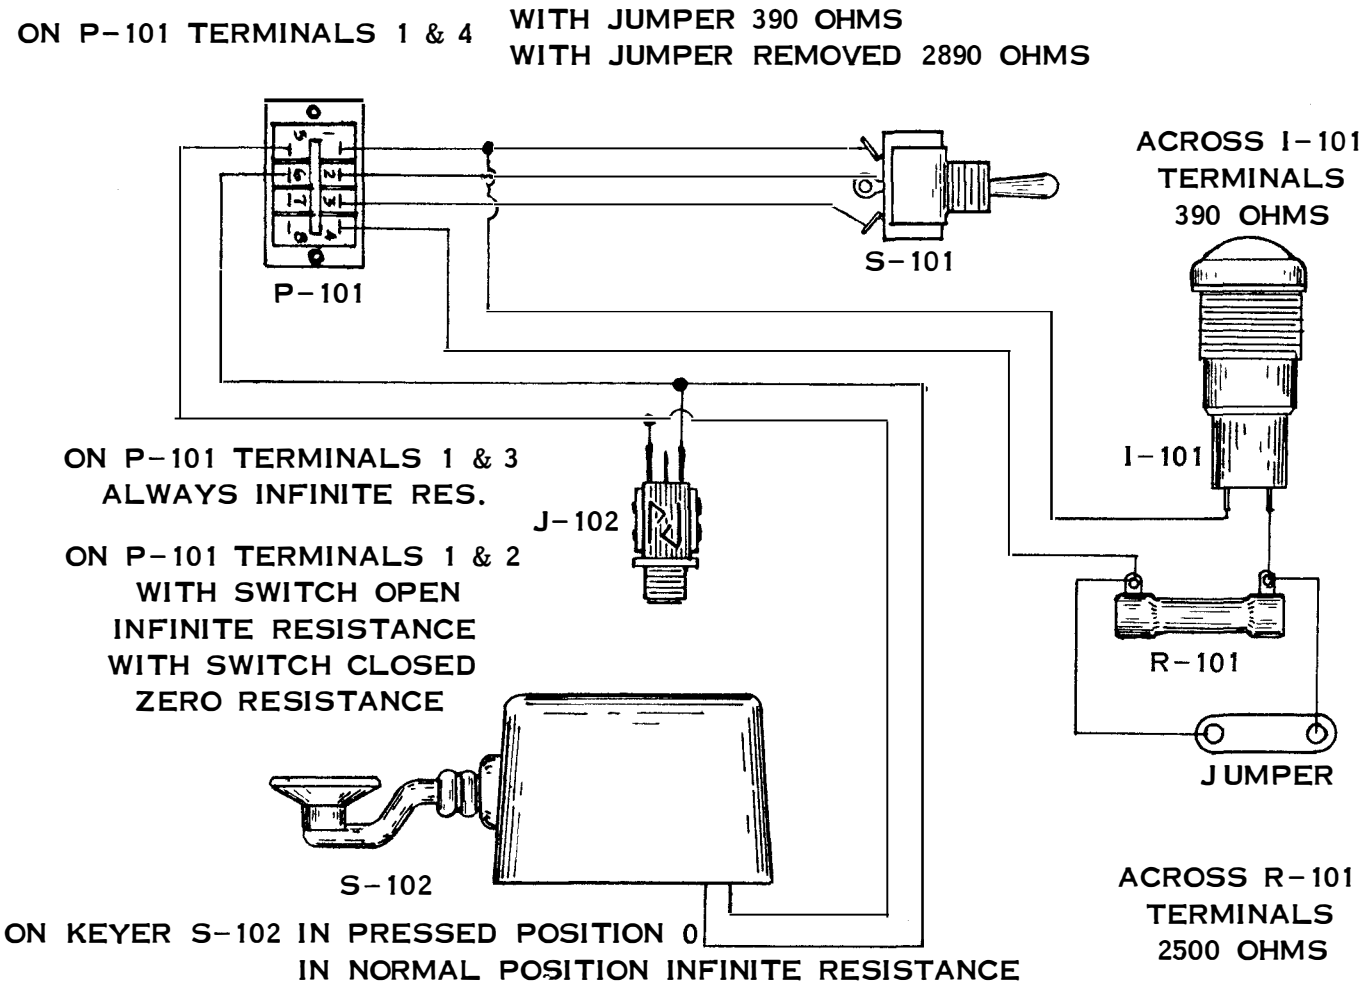

Figure 2-2. Control Panel Telegraph Key SB-315B/U, Wiring Diagram
(b) It is important to know when to use the low-resistance range and when to use the high-resistance range of an ohmmeter. When checking the circuit continuity, the ohmmeter should be set at the lowest range. When checking high resistances or measuring the leakage resistance of cables, the highest range should be used. For resistance measurements see Figure 2-2.
b. WIRING DIAGRAM. - See figure 2-2.
(1) SPRING TENSION ADJUSTMENT. - Turn the adjustment screw clockwise to increase spring tension. Turn the adjustment screw counterclockwise to decrease pressure.
(2) KEY TRAVEL ADJUSTMENT. - Turn the adjustment screw clockwise to increase key travel. Turn the adjustment screw counterclockwise to decrease key travel.